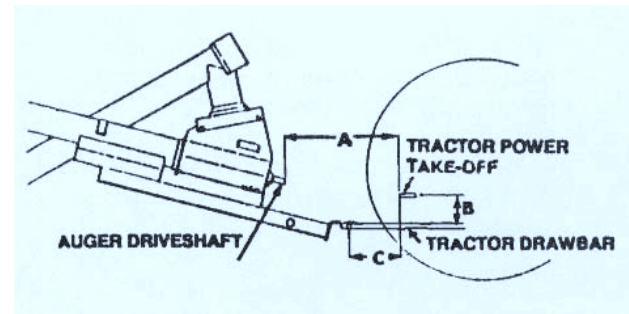

Fig. 3 ATTACHING DIMENSIONS
6. Check the auger to tractor mounting dimensions per the drawing prior to attaching. **See Fig. 3.** The auger is designed to be attached to a tractor during any operation including transporting, moving, raising, lowering or working. Because the unit must operate throughout a wide range of geometry, each dimension must be within a specified range. Verify that these dimensions fall within the recommended ranges before attaching.